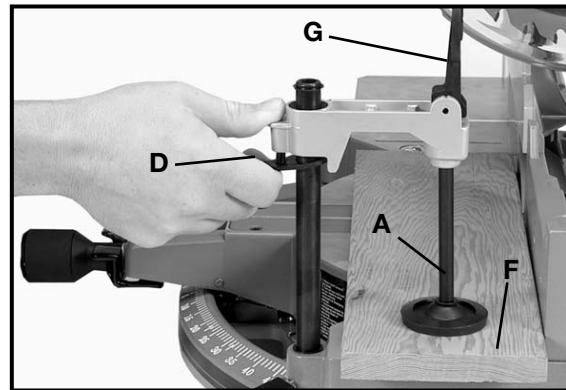

Fig. 21
2. During operation, lower clamp (A) Fig. 21, by depressing lock lever (D), until the bottom of the clamp (A) lightly contacts the top of the workpiece (F). **IMPORTANT: Cam lever (G) should be in “UP” position when the clamp is lowered on the workpiece.**